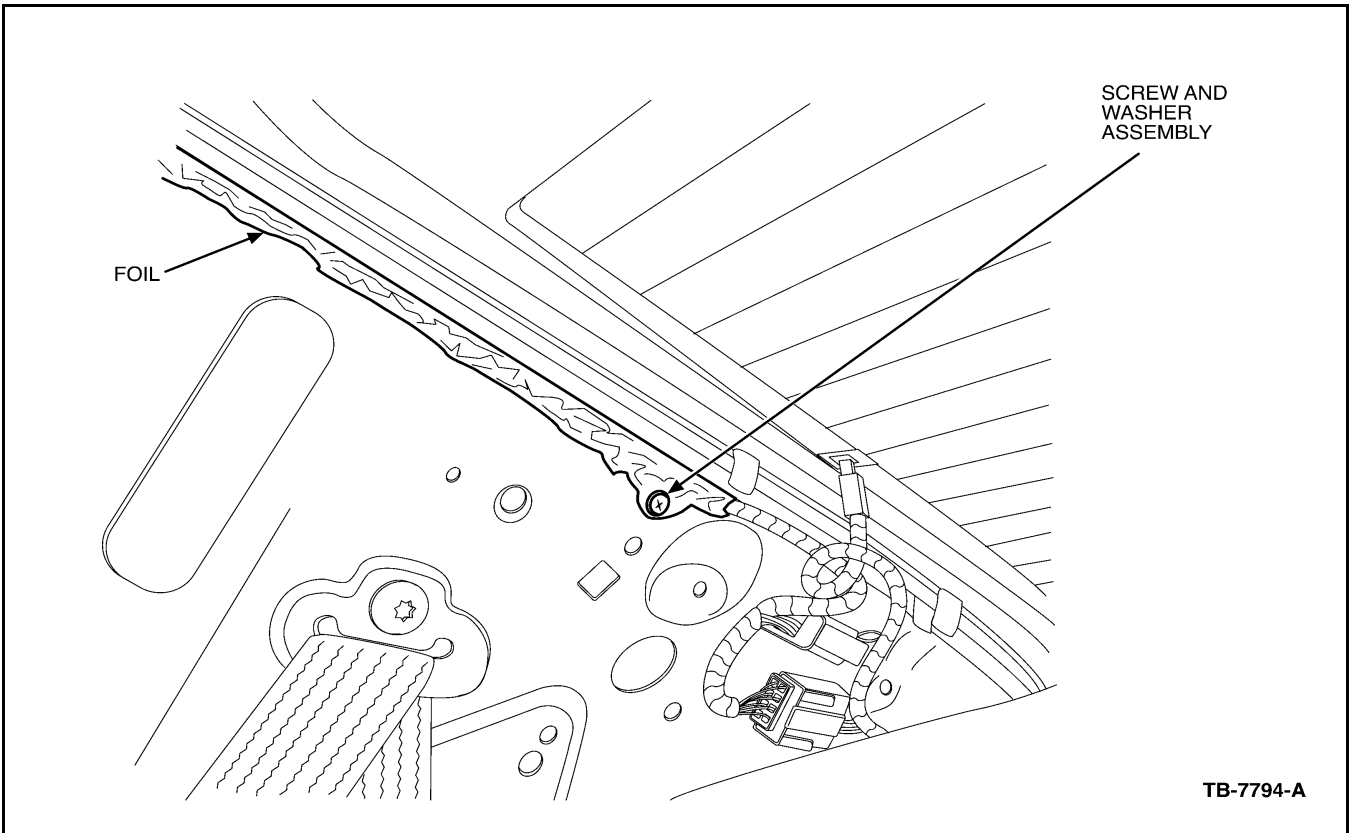

Figure 2 - Article 04-1-7
6. Place the aluminum foil over the 14334 wire harness (where it runs along the rear window) making sure the wire harness is in the channel (Figure 2).
7. Wrap the aluminum foil tightly around the 14334 wire harness (Figure 2).
**WRAPPING THE 14334 WIRE HARNESS WITH ALUMINUM FOIL NEAR THE TOP OF THE REAR WINDOW AND HEADLINER IS CRITICAL SO THAT THE WIRE HARNESS IS INSULATED FROM THE AM ANTENNA GRID IN THE REAR WINDOW (FIGURE 2).**
**THE PUSH PIN FASTENER SHOULD BE WRAPPED IN ALUMINUM FOIL ALONG WITH THE 14334 WIRE HARNESS ALONG THE UPPER PORTION OF THE REAR WINDOW (FIGURE 2).**
9. Create a shielded ground around the 14334 wire harness by grounding the aluminum foil to the sheet metal behind the quarter trim panel using a screw and washer assembly Part # N808720-S307 (Figure 2).
**INSTALL THE SCREW THROUGH THE ALUMINUM FOIL NEAR THE BOTTOM OF THE WRAPPED 14334 WIRE HARNESS (TOWARD THE PACKAGE TRAY) FOR THE BEST RESULTS (FIGURE 2).**